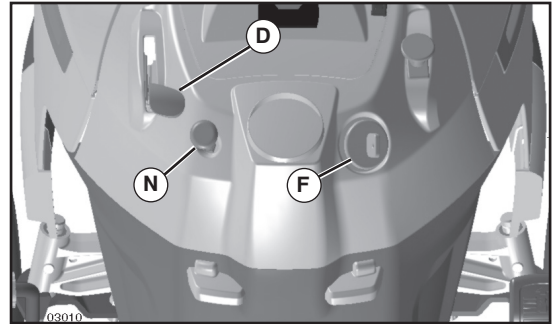

FIG. 6
ENGINE - (See Fig. 6)
TO USE THROTTLE CONTROL (D) (See Fig. 6)
TO USE CHOKE CONTROL (N) (See Fig. 6)